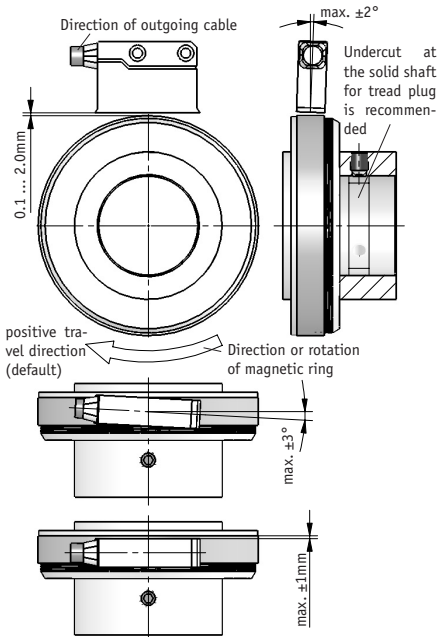

Fig. 8: Mounting tolerances
- Provide for a relief groove in the solid shaft (see fig. 8).